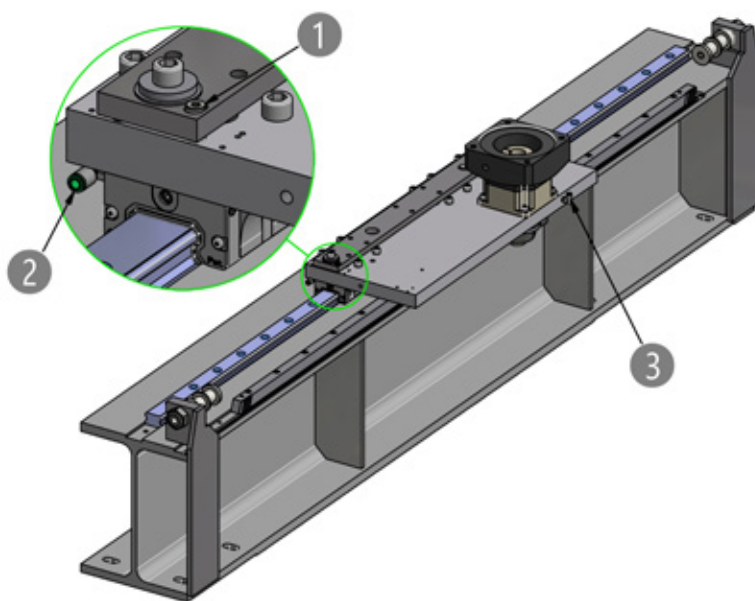

Figure 3.16 __ Position of the cylinder bolt and the lubrication connections of Beam Axis for parallel use
During assembly, the Linear Axis must be aligned in parallel and finally fastened. To activate the compensation system, the cylinder bolt ❶ (Figure 3.16) must then be removed.
The carriages ❷ and the rack and pinion drive ❸ of the Linear Axis AXS120M_ and AXS300MP are equipped with lubrication connections for central lubrication systems. The position of the lubrication connections are shown in Figure 3.16.